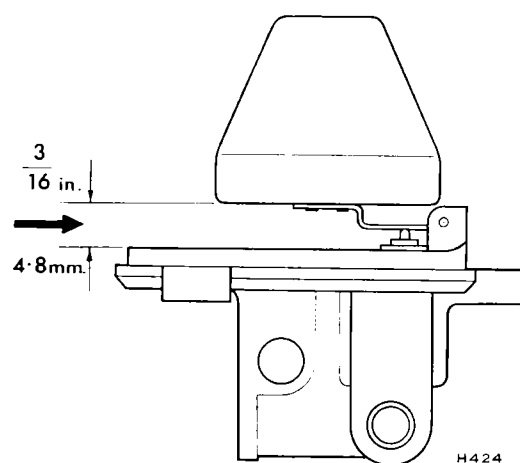

Fig. 66. Checking float height
6. Refit the float and lever (46) to the lid, insert the hinge pin (45) and invert the float-chamber lid. With the needle valve held in the shut off position, by the weight of the float only, there should be $\frac{3}{16}$ " (4.8 mm) gap between the float lever and the rim of the float-chamber lid (see Fig. 66).
7. Examine the lid gasket (42) for re-use. If satisfactory, assemble the gasket to the lid and refit the lid to the float chamber in the position marked during dismantling. Tighten the securing screws evenly.
8. Refit the float chamber assembly to the carburettor body and fully tighten the retaining bolt (51), making sure that the rubber mounting details and backing washer, items (50), (49) and (48), are assembled in the correct order and engage with the register on the body. Do not intermix the rubbers of a pair of carburetors.